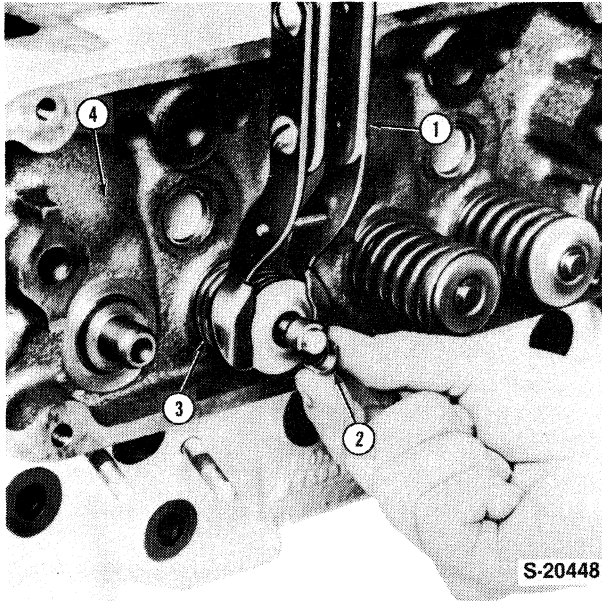
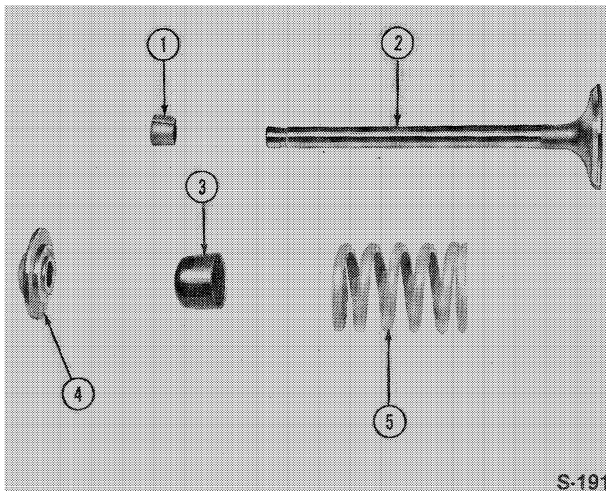

Figure 8
Figure 9
3. Using a valve spring compressor, Figure 8, remove the retainer locks, spring retainers/rotators, springs and seals from each valve, Figures 9 and 10.